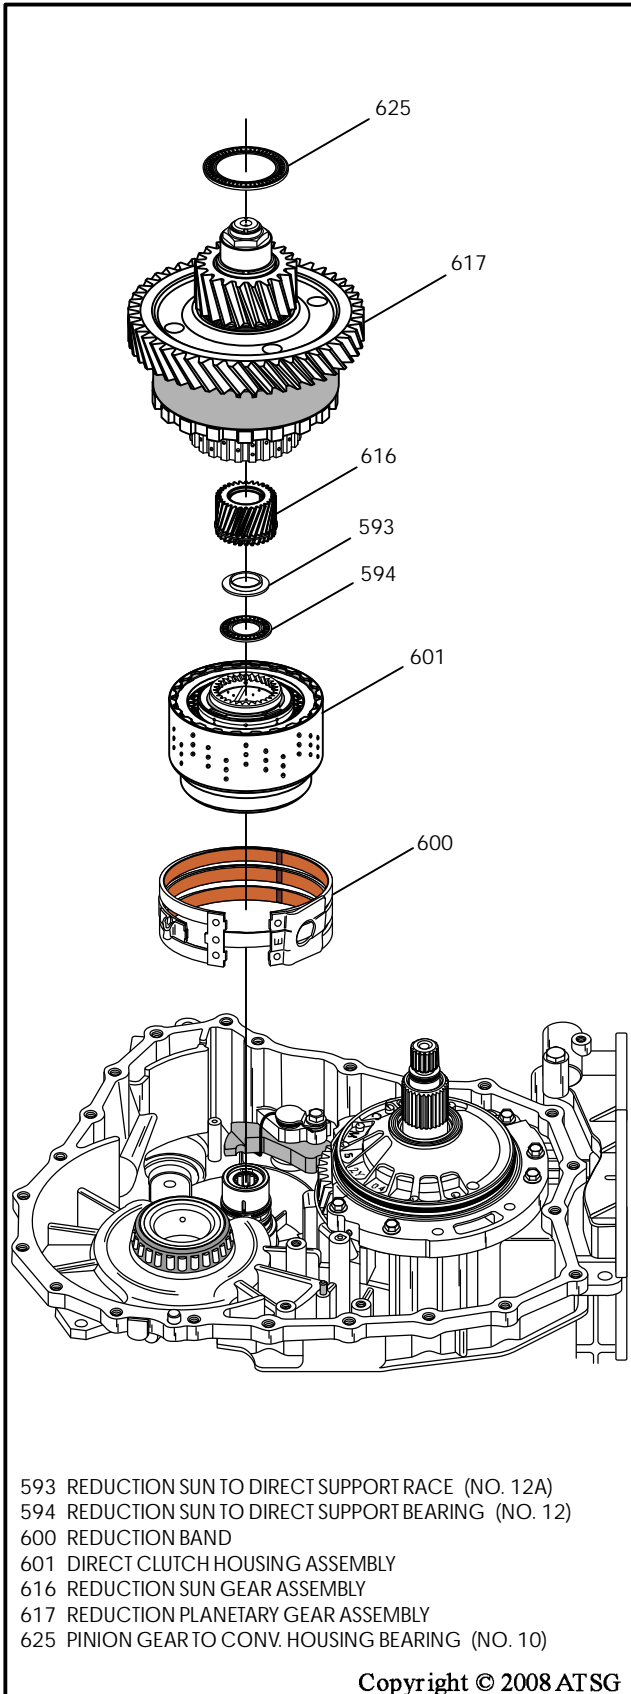

Figure 42
25. Remove the number 10 thrust bearing from the pinion gear on the reduction carrier assembly, as shown in Figure 42.
26. Remove the reduction carrier assembly from case by lifting up with slight twisting motion, as shown in Figure 42.
28. Remove the reduction sun gear from direct clutch housing, as shown in Figure 42.
29. Remove the number 12 thrust bearing and the 12A thrust bearing race (See Figure 42).
30. Remove the direct clutch housing from case, as shown in Figure 42.
32. Remove the reduction band assembly from the case, as shown in Figure 42.